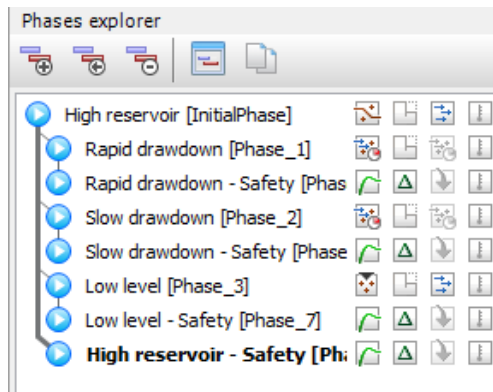

Figure 8.13 The final view of *Phases explorer*
- In the *Numerical control parameters* subtree, uncheck *Use default iter parameter* box and set the *Max steps* parameter to 30 for Phase 4 and to 50 for phases 5 to 7. The final view of *Phases explorer* is given in Figure 8.13.